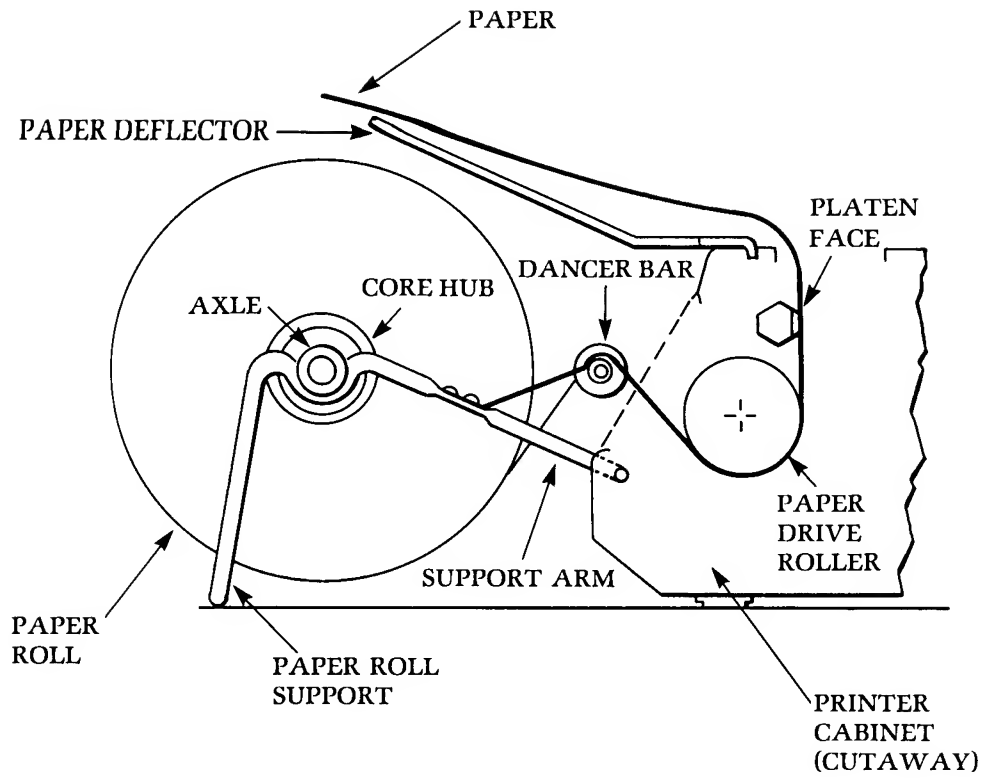

Figure 6. Roll Paper Support Installation
7. Insert the arms of the **PAPER SUPPORT** into the two holes provided on the back of the printer (Figure 6).
8. Place the roll of paper on the **PAPER SUPPORT** so that the paper comes off the bottom of the roll and over the **DANCER BAR** (Figure 6).
19. Install the **PAPER DEFLECTOR** (Figure 6) in the two holes provided in the top cover of the printer.